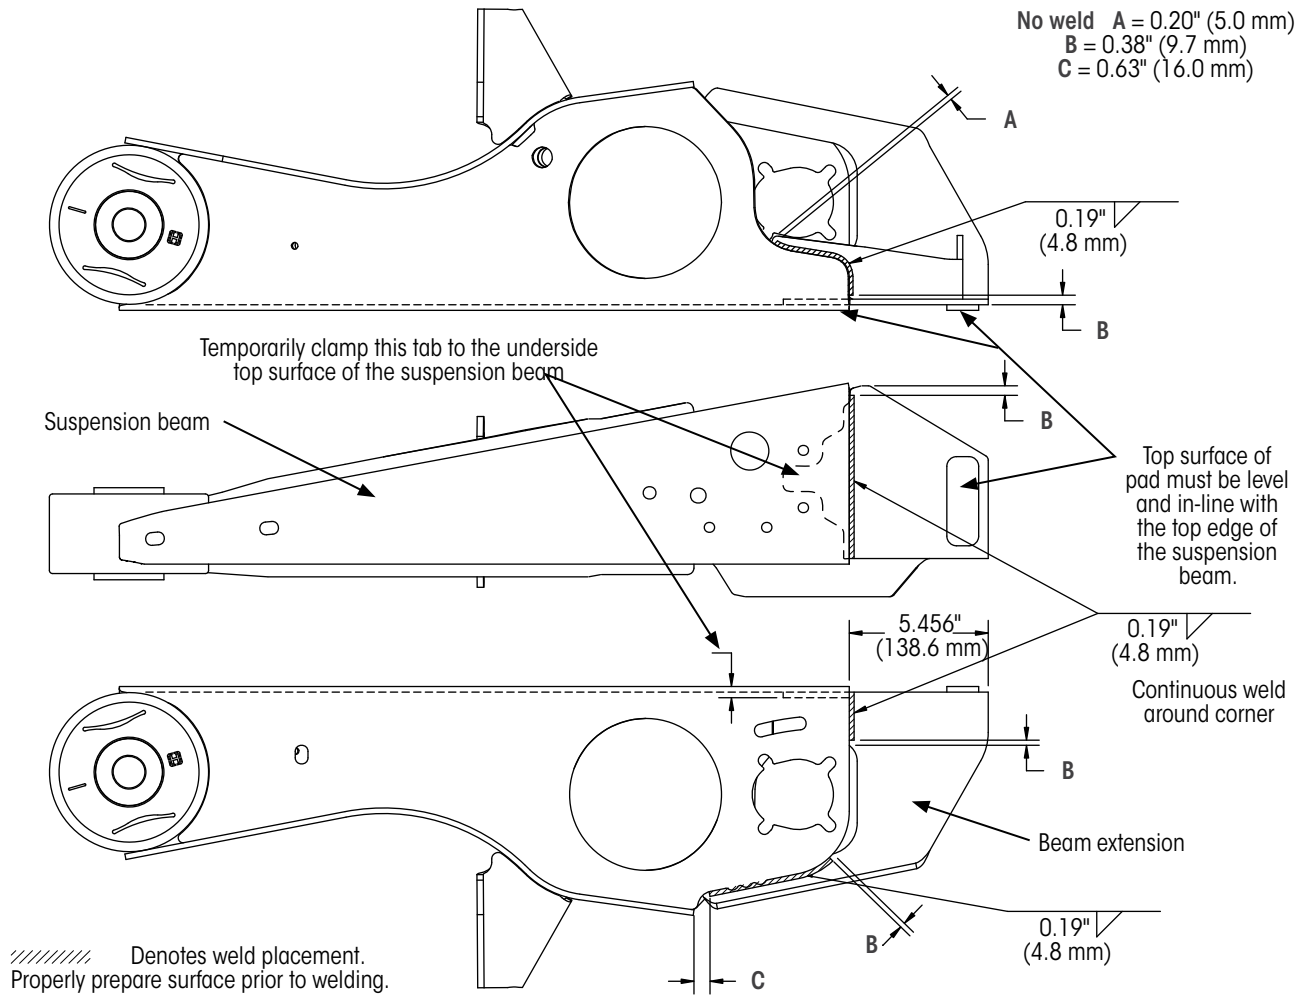

Figure 66: Rear narrow beam extension weld specifications
4. Referring to Figure 66, the applicable installation drawing¹ and the weld parameters on APPENDIX A: WELDING DETAILS on page 44; weld the extension to the suspension beam as indicated.